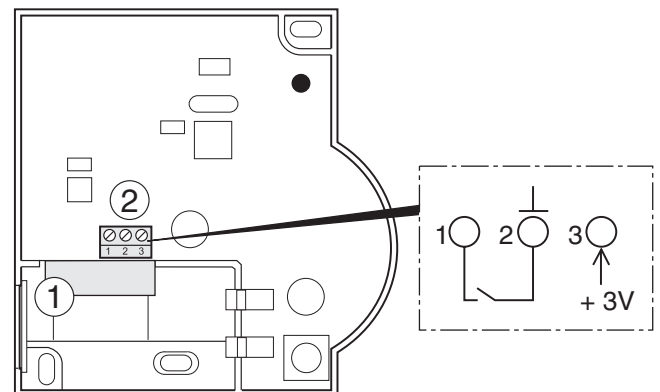

Fig. 7: Connection of the external power source (only HCW 82)
- ▶ Lead the outlet cable of the power supply unit through the housing opening (1) (see Fig. 7) to the inside.
- ▶ Connect the outlet cable to the terminal (2) (see Fig. 7).
- ▶ Connect any sensor with floating contact to the HCW 82 (installation to connection 1 and connection 2, see Fig. 7(2), Page 9).